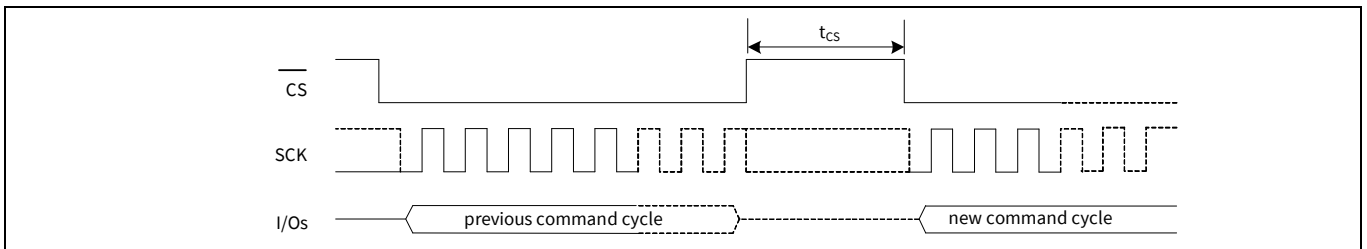

Figure 117 Chip deselect (\overline{CS} HIGH) - t_{CS} timing
22. t_{CS} is the minimum chip deselect ($\overline{\text{CS}}$ HIGH) time before the new command cycle starts in a specific SPI mode (SPI, DPI or QPI). This parameter ensures that previous operation is successfully completed before the host starts a new command cycle. Refer to **Figure 117**.
- 22. t_{CS} is the minimum chip deselect (\overline{CS} HIGH) time before the new command cycle starts in a specific SPI mode (SPI, DPI or QPI). This parameter ensures that previous operation is successfully completed before the host starts a new command cycle. Refer to **Figure 117**.
27. t_{CS} is the minimum chip deselect (\overline{CS} HIGH) time before the new command cycle starts in a specific SPI mode (SPI or QPI). This parameter ensures that previous operation is successfully completed before the host starts a new command cycle. Refer to **Figure 117**.
- 27. t_{CS} is the minimum chip deselect ($\overline{\text{CS}}$ HIGH) time before the new command cycle starts in a specific SPI mode (SPI or QPI). This parameter ensures that previous operation is successfully completed before the host starts a new command cycle. Refer to **Figure 117**.